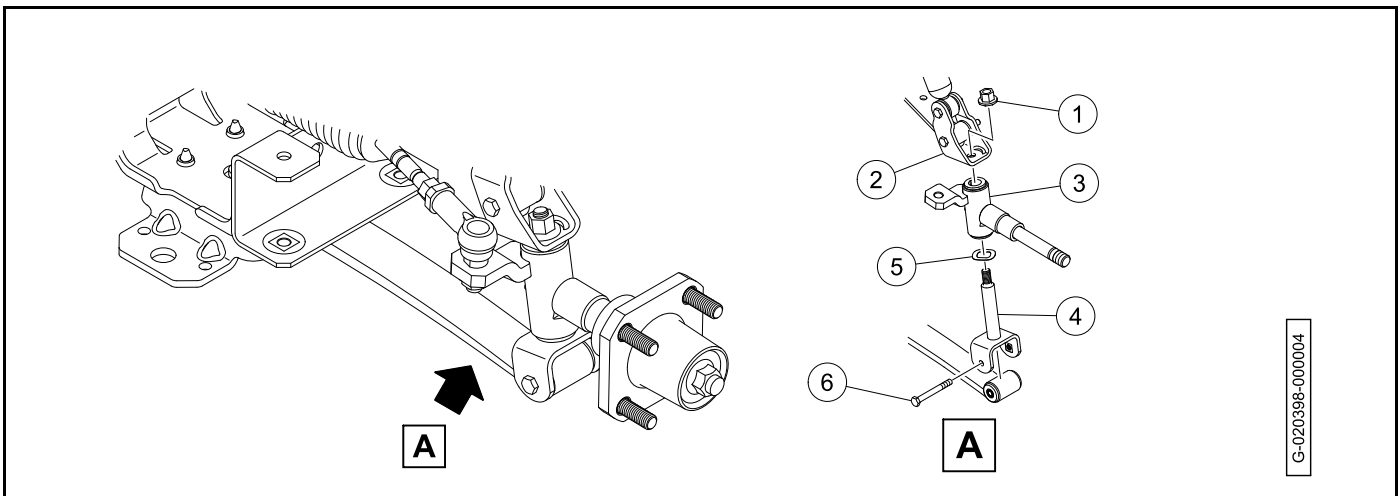

Figure 7-27
5. Remove the front hub (2).
6. Remove the retaining nut (3).
7. Remove tie rod end (4) from the tabs (5) on the spindles.
8. Remove the nut (1) (Figure 7-27, Page 7-20).